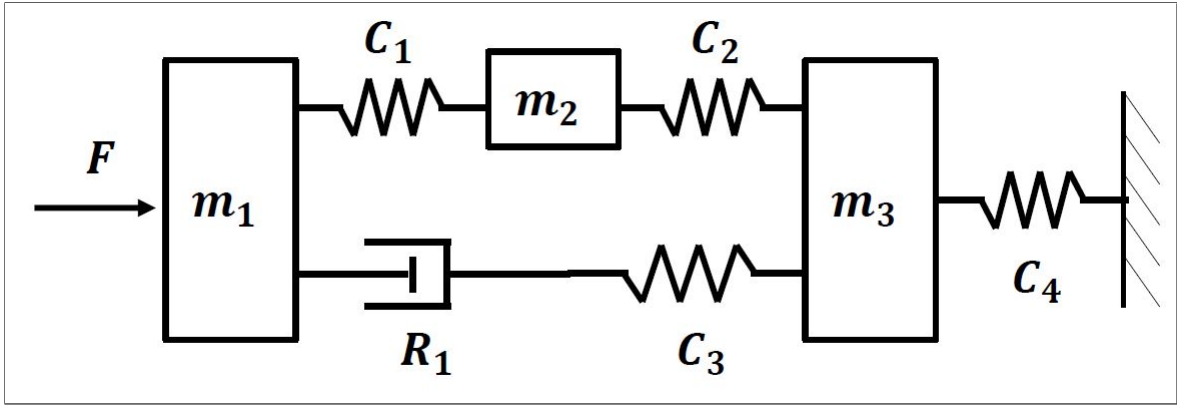

Figure 5: Mechanical Diagram of 1c
Here is the mechanical diagram and its electrical equivalent circuit on Figure 5 and 6 respectively.
ysis in Equation (9). Look at Figure 5 for the labeled velocities currents: v_1, v_2, v_3, v_4 .